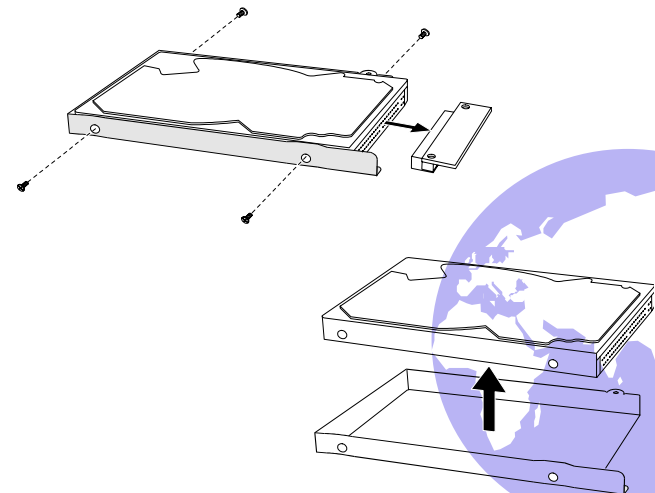

Figure 7-27. Removing the Hard Disk Drive Bracket
1. Attach the bracket to the hard disk drive and secure with four screws on both sides. (Refer to Figure 7-27 )